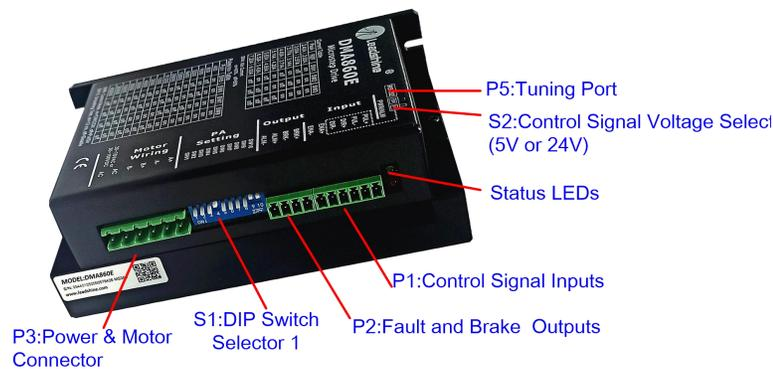

Figure 2 Connectors, DIP switches, and LED locations
PUL+ (CW+)	Pulse and Direction Connection: (1) Optically isolated, high level 4.5-5V or 24V, low voltage 0-0.5V (2) Maximum 200 KHz input frequency (3) The width of PUL signal is at least 2.5µs, duty cycle is recommended 50% (4) Single pulse (step & direction) or double pulse (CW/CCW) is set by DIP Switch SW9 (5) DIR signal requires advance PUL signal minimum 5 µs in single pulse mode (6) The factory setting of control signal voltage is 24V, must need to set S2 (figure 2) if it is 5V
The DM860T(V3.0) can accept can accept differential or single-ended control signals (pulse, direction, and enable) in open-collector or PNP connection through the P1 connector (figure 2). It is recommend to add an EMI line filter between the power supply and the drive to increase noise immunity for the drive in interference environments.
- (1) ENA signal is no-connected as default;
- (2) Control signal amplitude is 24 V as default. If it is 12 V, please set the S2 (Figure 2) selector switch to 5 V first, then connect 1KΩ resistor; If it is 5V, please set the S2 to 5V.
The second 1-bit selector is located on the top (S2 in figure 2), used to configure the voltage of control signals. For the safety of optically coupled, the factory setting is 24V, which no need to connect 2K resistors like the old drives, making it easier to use. When the voltage of the control signal is 5V, the S2 must be set to 5V, otherwise, the motor won't work.